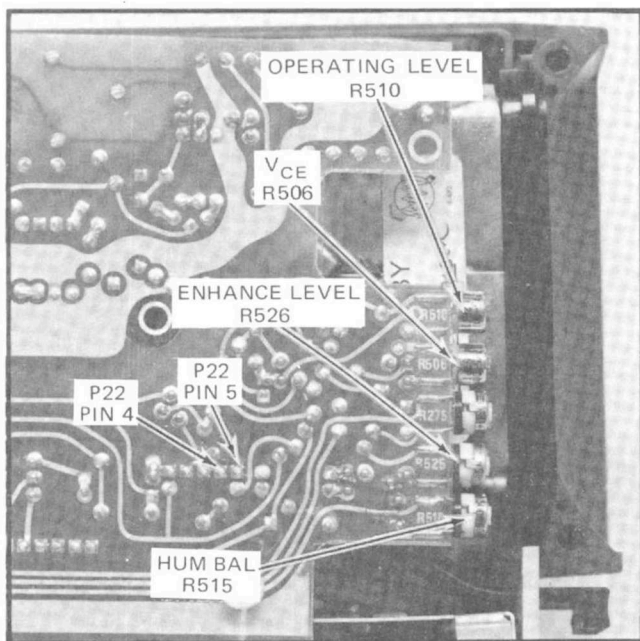

Fig. 4-4. Location of storage operation adjustments.
(1) Turn the CH 1 POS control to midrange and vertically position the two traces within the center four graticule divisions.
(2) Set the SEC/DIV switch to 5 m and turn the INTENSITY control fully clockwise.
(3) PRESET—Operating Level adjustment, R510 (see Fig. 4-4) fully counterclockwise.
(4) Connect the DC Voltmeter between pin 4 of plug 22 and ground (negative meter lead to ground) on the Power Supply (A-3) board. See Fig. 4-4.
(5) Depress the SINGLE SWP button and the STORE button.
(6) Press the ERASE button.
(7) Press the RESET button.
a. Connect the DC Voltmeter between pin 5 of plug 22 and ground (positive meter lead to ground) on the Power Supply (A-3) board. See Fig. 4-4.
b. Rotate  $V_{CE}$  adjustment, R506 (see Fig. 4-4), from fully clockwise to fully counterclockwise.
- g. ADJUST—Enhance Level adjustment, R526 (see Fig. 4-4) for the best possible display.